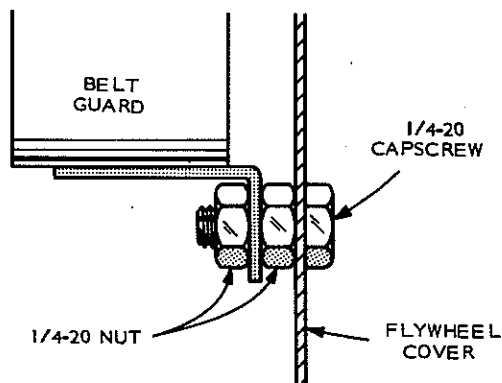

FIGURE 6-33. BELT GUARD MOUNTING (SEE STEP 11)
2. Remove belt guard (Figure 6-33), flywheel cover and flywheel. Remove two cap screws holding flywheel pulley and flywheel capscrew, then lift off pulley. Re-install flywheel capscrew part way and re-install pulley over it. Using pulley as a gear puller, tighten the two capscrews to pull flywheel loose.
- c. For easy removal, mount the capscrew as shown in Figure 6-33. The 1/4-20 nut isn't furnished.